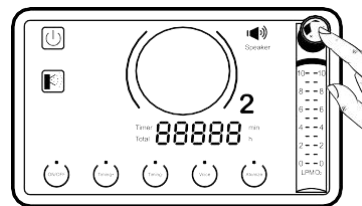

Figure 8
6. Adjust the flow to the prescribed setting by turning the knob on the top of the flow meter until the ball is centered on the line marking the specific flow rate. (Figure 8)